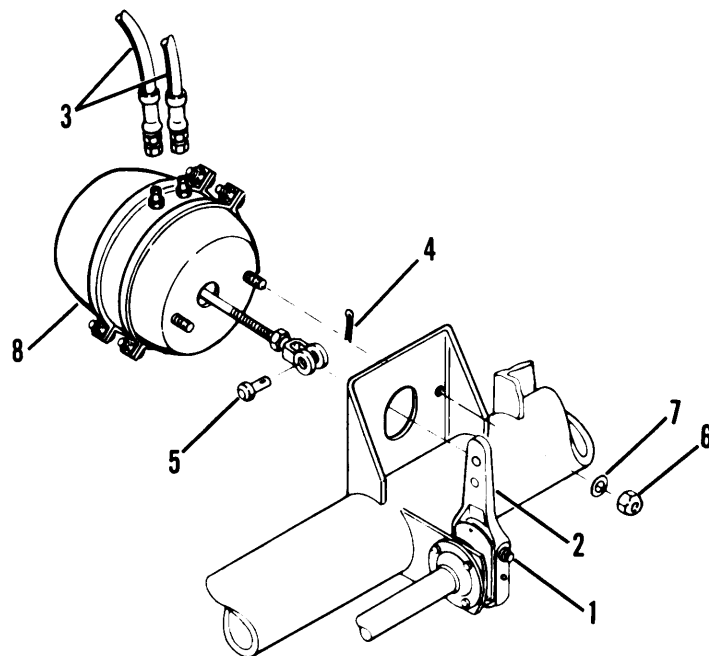

Figure 4-37. Spring Brake Chamber
- (1) Turn adjusting nut (1, fig. 4-37) on slack adjuster (2) counterclockwise to release spring forces.
- (2) Tag and disconnect air lines from multi-function and emergency relay valves.
- (3) Tag and disconnect two air lines (3) from spring brake chamber (8).
- (4) Remove cotter pin (4) and clevis pin (5). Remove clevis from slack adjuster (2).
- (5) Remove two nuts (6) and two washers (7).
- (6) Remove spring brake chamber (8).
- (1) Install spring brake chamber (8, fig. 4-37) in position.
- (2) Install two washers (7) and two nuts (6).
- (3) Position clevis on slack adjuster (2) and install clevis pin (5) and cotter pin (4).
- (4) Connect air lines (3) to spring brake chamber (8).
- (5) Connect air lines to the multi-function and emergency relay valves.
- (6) Close drain cocks on air reservoirs and pressurize air brake system.
- (7) Adjust slack adjuster (para. 4-30).